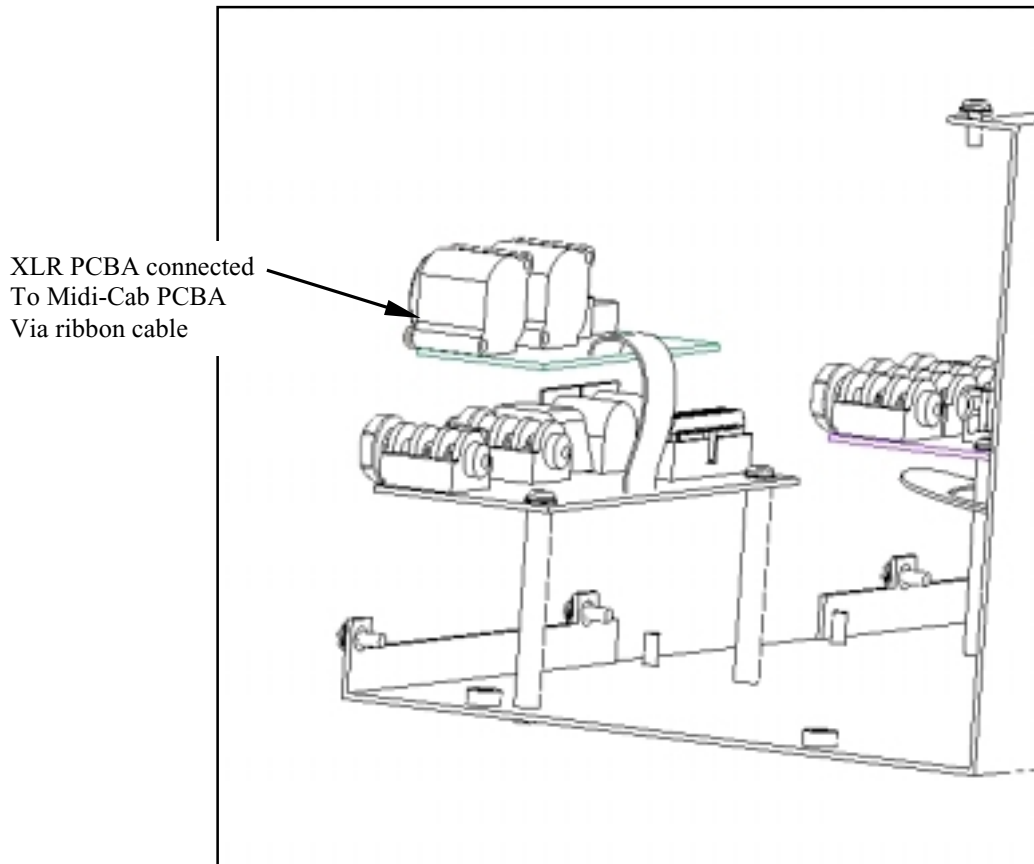

Figure 14
- a. The XLR PCBA will remain loose until the Cover is installed. See figure 14.